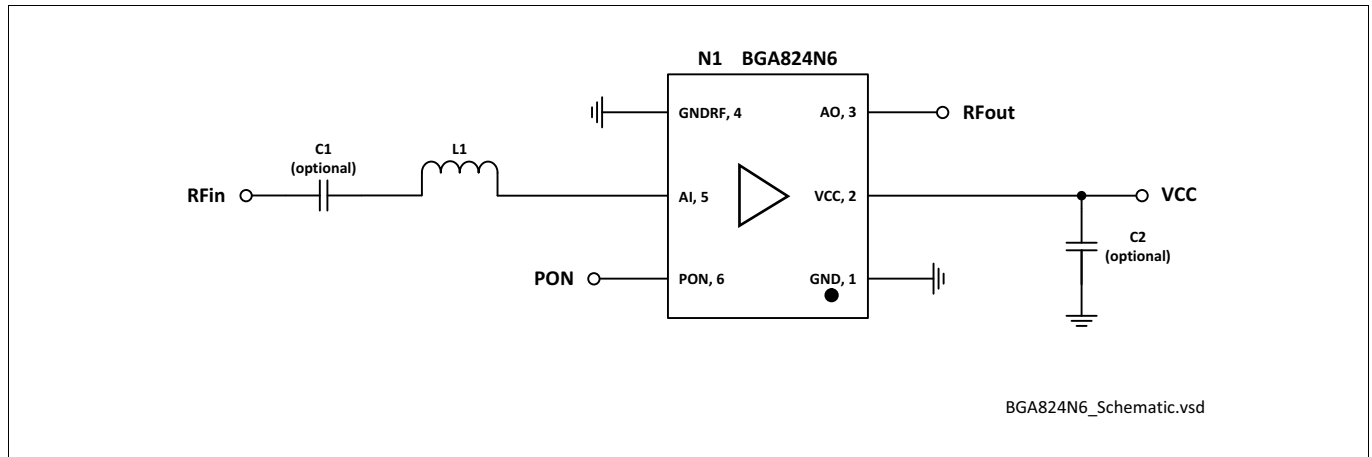

Figure 2 Application Schematic BGA824N6 $f = 1550 - 1615$ MHz
1) Based on the application described in Figure 2 in Chapter 4